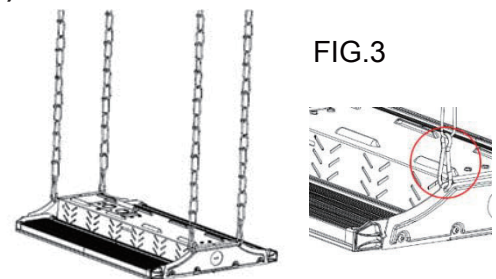

FIG.3
1. Located provided chains. Attach chain to the holes on fixture housing (See FIG.3)